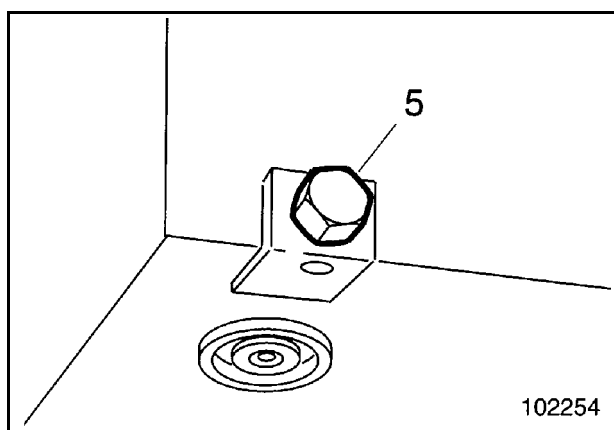

Fig. 3-58:
- Loosen drain plug (5, Fig. 3-58:) at fuel the tank and drain off fuel.
- Screw automatic drain plug backs (5) in place.